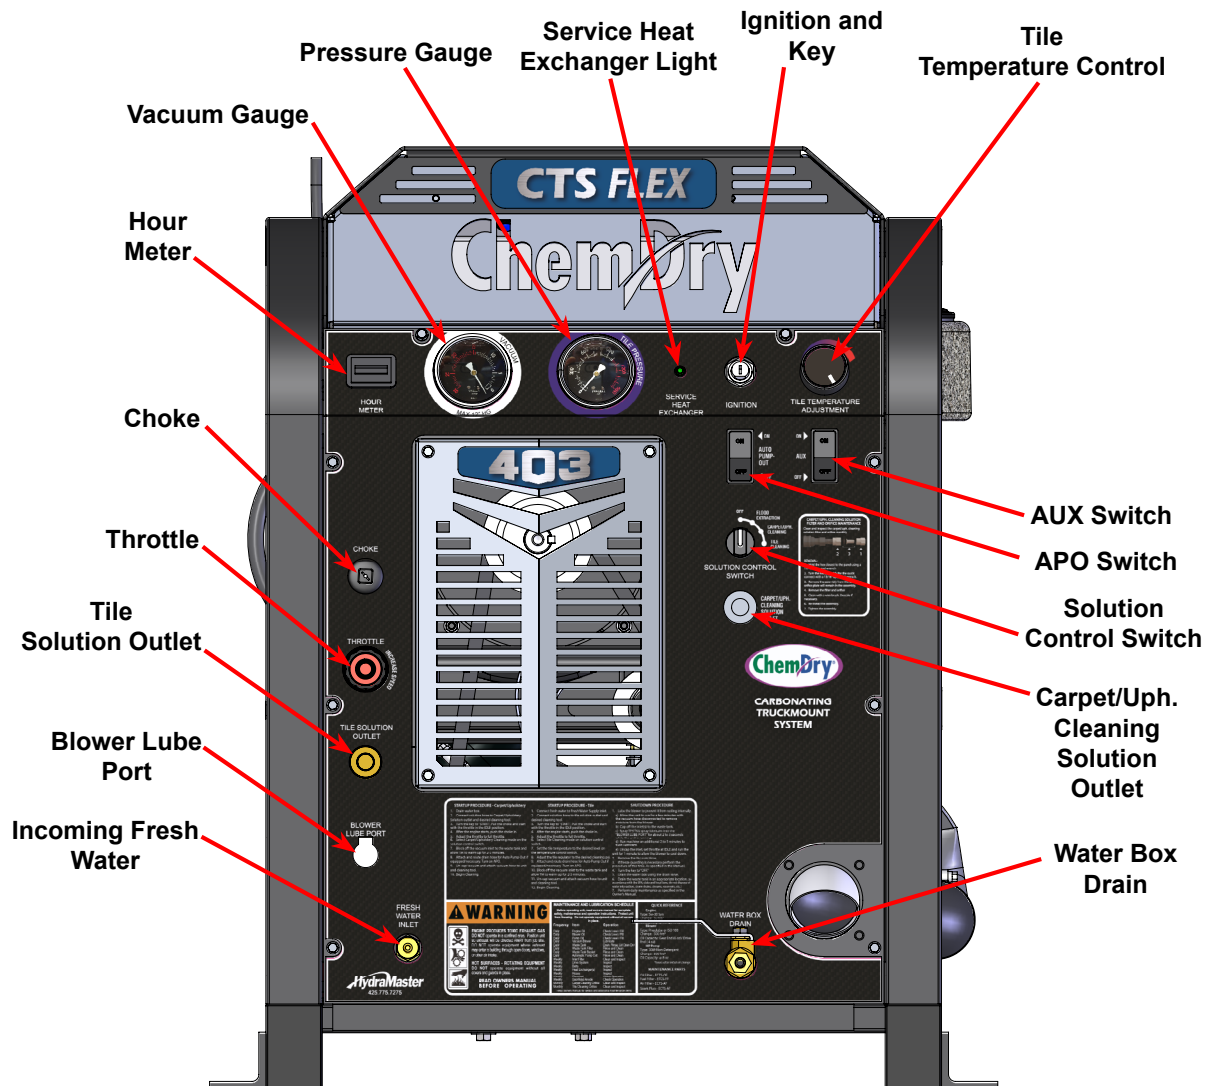

Figure 2. CTS 403 Flex Dash Assembly
3. Connect the solution hose to the quick connect Carpet/Uph. Cleaning Solution Outlet (see Figure 2).
3. Turn the key to "Start". Pull the choke and start with the throttle in the "IDLE" position. ("IDLE" position – see Figure 2).
- c. Spray a LPS TKX spray lubricant into the "BLOWER LUBE PORT" for about 2 to 3 seconds while the unit is running (See Figure 2).